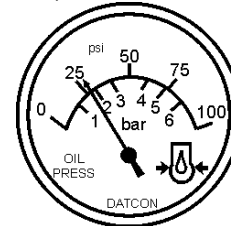

Figure 48. Oil Pressure Gauge
10. The engine oil pressure gauge (Figure 48) will indicate the oil pressure of the engine. Under normal operating conditions the oil pressure is approximately 42 to 71 psi. (290~490 kPa).